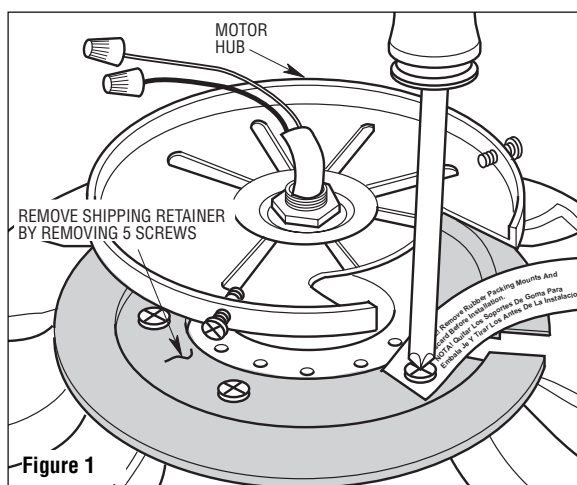

Figure 1
1. Rotate the motor hub to align the hub notch area over each of the five screws which is holding the shipping retainer to the motor assembly. One by one unscrew each screw and discard screw and shipping retainer (Figure 1).